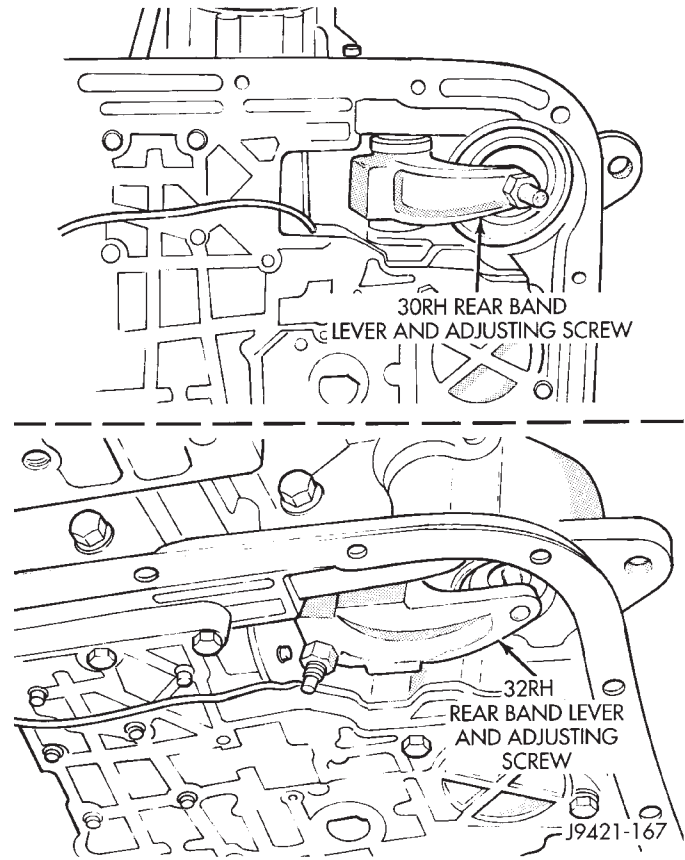

Fig. 181 Rear Band Adjustment Screw Location
- (1) Raise vehicle.
- (2) Remove transmission oil pan and drain fluid.
- (3) Loosen band adjusting screw locknut 5-6 turns. Be sure adjusting screw turns freely in lever.
- (4) Tighten adjusting screw to 5 N·m (41 in. lbs.) for the 30RH and 8 N·m (72 in. lbs.) torque for the 32RH (Fig. 181).
- (5) Back off adjusting screw 7 turns for the 30RH and 4 turns for the 32RH.
- (6) Hold adjusting screw in place and tighten locknut to 34 N·m (25 ft. lbs.) torque.
- (7) Position new gasket on oil pan and install pan on transmission. Tighten pan bolts to 17 N·m (13 ft. lbs.) torque.
- (8) Lower vehicle and refill transmission with Mopar® ATF Plus 3, Type 7176, fluid.